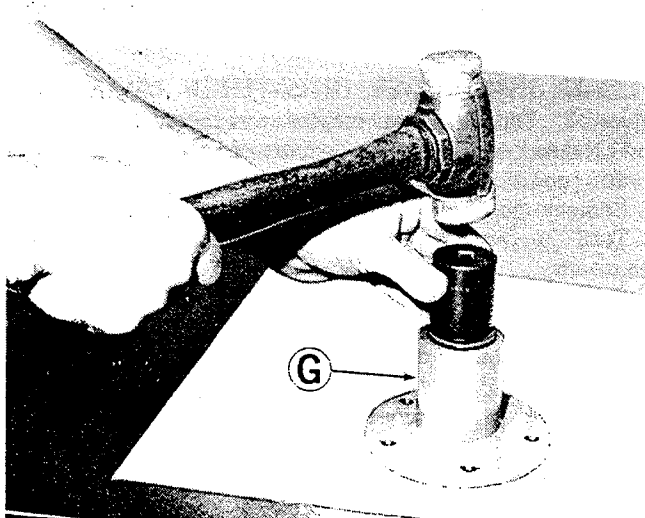

Figure 36. Pressing grease seal into front wheel hub.
10. Put the inner bearing in place in the bearing housing and press a new grease seal (G) in place as it is shown in figure 36.
15. Replace the dust cover (A).